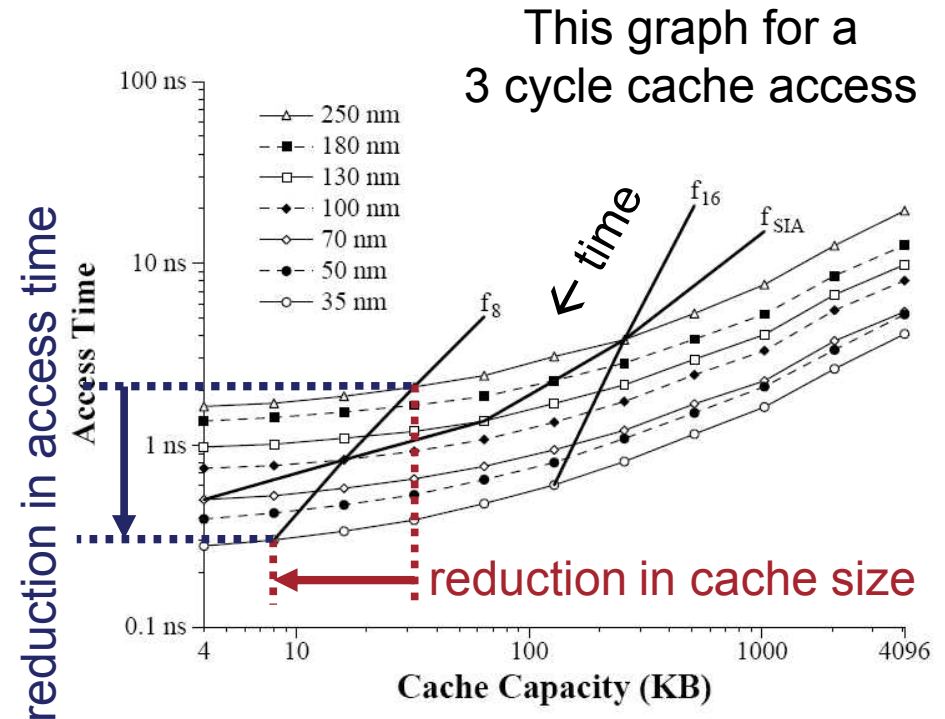

Figure 5: Access time for various L1 data cache capacities.
- Figure 5 from "Clock Rate versus IPC: The End of the Road for Conventional Microarchitectures" by Vikas Agarwal, M.S. Hrishikesh, Stephen W. Keckler, and Doug Burger